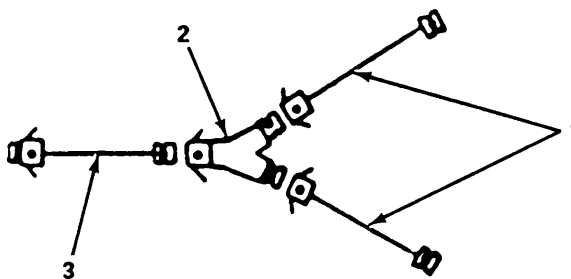

Figure 4-12. Wye Fitting Assembly, Removal/installation.
4-18. Wye Fitting Assembly (cont).**b. Replace.** (figure 4-12)**(1) Removal.**